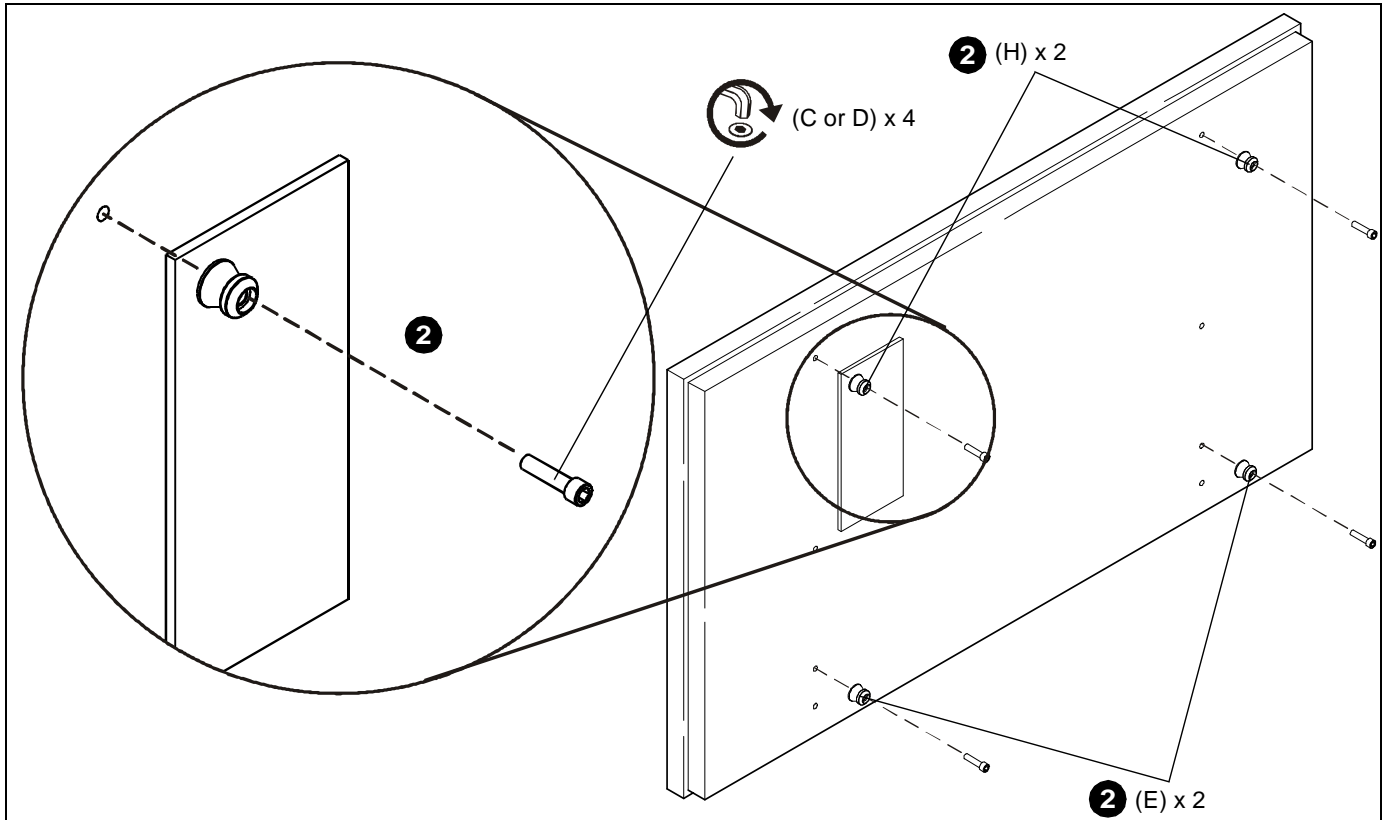

Figure 5
- Install four mounting buttons (2 of E, 2 of H) onto display using four socket head screws (C or D). (See Figure 5)